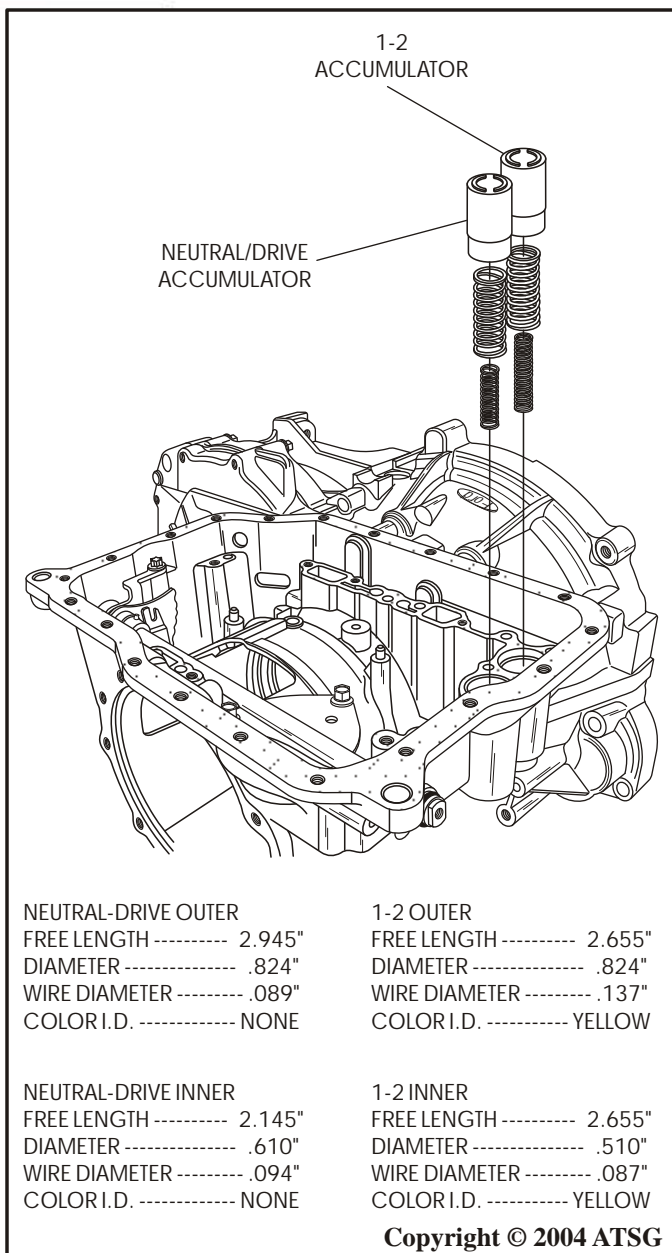

Figure 156
11. Install the 1-2 accumulator piston and springs in the bore closest to the converter housing, as shown in Figure 156.
12. Install the neutral/drive accumulator piston and springs in case bore, as shown in Figure 156.
**Note: Each of the two accumulators have two springs. All four springs are different sizes. Spring specifications are listed in Figure 156. The two accumulator pistons are the same.**